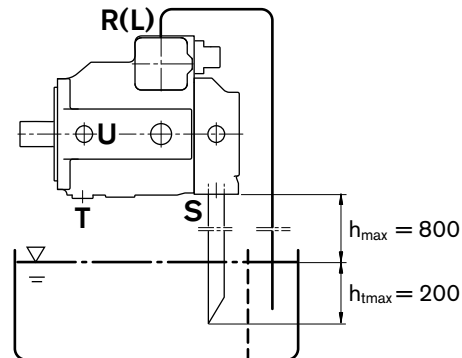

Fig. 4
b) When the minimum fluid level lies below the upper edge of the pump: case drain port and possibly port »S« must be piped, see fig. 4. Observe conditions as shown in point 1.2.
a) Mounting above the reservoir see fig. 4.